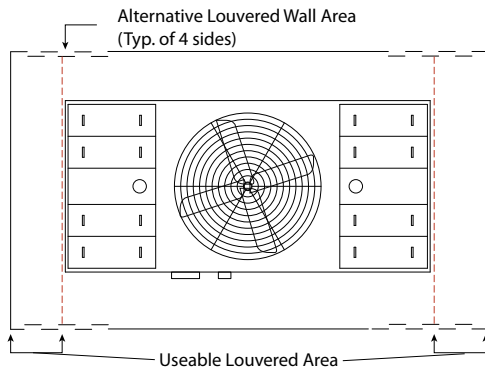

Figure 10. Plan View of Dual Air Intake Unit with Alternate Louver Arrangement
- b. If the available space does not permit the unit to be arranged with the air intakes facing the louvered or slotted walls and the enclosure cannot be modified to permit such an arrangement, consider the alternative illustrated in **Figures 10 and 11** on the following page. This arrangement should be restricted to one-cell or two-cell installations. The usable area of the louvers is only the length extending beyond the width of the unit.